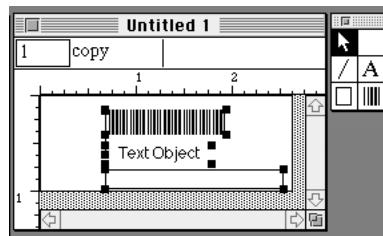

Figure 6-31 Selected Objects After Alignment
7. Click **OK** or press **<Return>** to return to the work area. Note the selected objects have been aligned left in relation to the bar code object. See Figure 6-31.